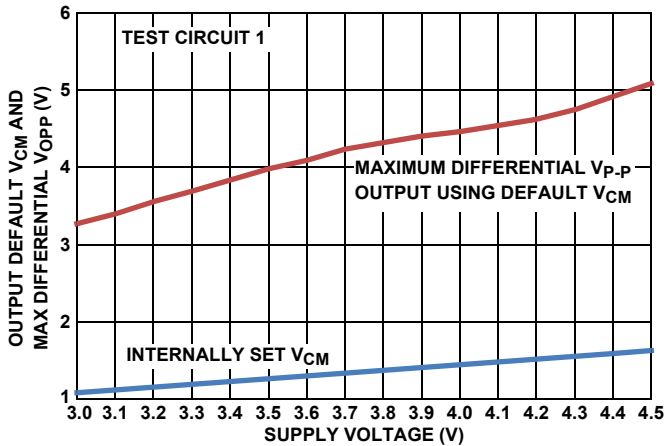
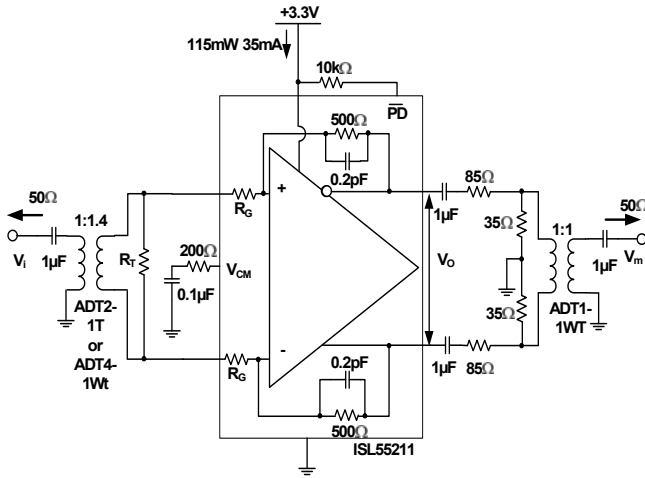
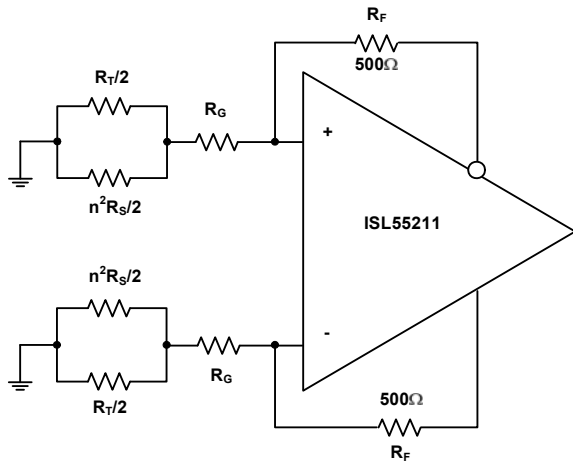
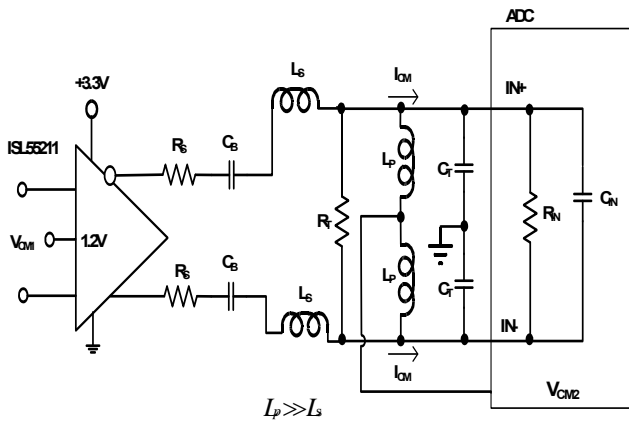

FIGURE 27. DEFAULT V_{CM} AND MAX V_{OPP} vs SUPPLY VOLTAGE
FIGURE 29. TEST CIRCUIT 1
FIGURE 35. NOISE GAIN MODEL FOR THE TRANSFORMER COUPLED INPUT CIRCUIT OF FIGURE 29
FIGURE 37. AC-COUPLED, HIGHER FREQUENCY RLC INTERSTAGE FILTER DESIGN
Test Circuit 1 of Figure 29 forms a starting point for many of the characterization curves for the ISL55211. Since most lab sources and measurement devices are single-ended, this circuit converts to differential at the input through a wideband transformer and would also be a typical application circuit coming from a single-ended source. Assuming the source is a 50 Ω impedance, the internal R_G resistors and external R_T are set to provide both the input termination and the gain. Since the inverting summing nodes act as virtual ground points for AC signal analysis, the total termination impedance across the input transformer secondary will be $(2 * R_G) || R_T$. Setting this equal to $n^2 * R_S$ will give a matched input impedance inside the bandwidth of the transformer (where "n" is the turns ratio). The amplifier gain is fixed by the selected input R_G element and the internal 500 Ω feedback resistors. While the ISL55211 is internally a Voltage Feedback Design (VFA) to give the lowest possible noise, internal compensation caps hold the bandwidth over gain setting approximately constant at 1.4GHz. For wider small signal bandwidth at lower gains, consider the ISL55210, which provides >2.2GHz at a gain of 12dB.
Working with a transformer coupled input as shown in Figure 29, or with two DC blocking caps from a differential source, means the output common mode voltage set by either the default internal V_{CM} setting, or a voltage applied to the V_{CM} control pin, will also appear as the input common mode voltage. This provides a very easy way to control the ISL55211 I/O common mode operating voltages for an AC-coupled signal path. The internal common mode loop holds the output pins to V_{CM} and, since there is no DC path for an I_{CM} current back towards the input in Figure 29, that V_{CM} setting will also appear as the input common mode voltage. It is useful, for this reason, to leave any input transformer secondary centertap unconnected. The internally set V_{CM} voltage is referenced from the negative supply pin. With a single 3.3V supply, it is very close to 1.2V but will change with total supply voltage across the device as shown in Figure 27.
Most of the characterization curves starting with Figure 29 then get different gains by changing the connections to the two pairs of input R_G connections, as shown on the pin configuration drawing on page 2. Two input turns ratios are intended for Test Circuit 1; either a 1:1.4 turns ratio (ohms ratio of 2) or a 1:2 turns ratio (ohm ratio of 4). The specific transformers shown in Figure 29 are representative of broadband RF transformers but alternate devices and manufacturers of these turns ratio devices are certainly applicable. The output side of this test circuit presents a differential 200Ω load while converting the differential to single-ended through a resistive attenuator and a 1:1 transformer. This inserts approximately a 17dB insertion loss that is removed to report the characteristic curves. For load tests below the 200Ω shown in Figure 29, a simple added shunt resistor is placed across the output pins. For loads > 200Ω, the series and shunt load R's are adjusted to show that total load (including the 50Ω measurement load reflected through the 1:1 output measurement port transformer) and provide an apparent 50Ω differential source to that transformer. This output side transformer is for measurement purposes only and is not necessary for final applications circuits. There are output interface designs that do benefit from a transformer as part of the signal path as shown in Figure 1. In that case, the 1:1.4 output side transformer becomes part of a filter design and recovers the filter insertion loss from the amplifier output pins to the ADC inputs.
The characterization circuit of Figure 29 shows one possible input stage interface that offers several advantages. Where AC coupling is adequate, the circuit of Figure 29 simplifies the input common mode voltage control. If the source coming into this stage is single-ended, the input transformer provides a zero power conversion to differential. The two gain resistors (R_G in Figure 29) provide both a portion of the input termination impedance and the gain element for the amplifier. For 50Ω systems, these R_G resistors are too high with the turns ratios shown in Figure 29 to provide the full match and an external R_T resistor is required. This R_T element goes away at the highest gain setting using a 1:2 input turns ratio transformer.
This input interface also simplifies the input common mode control. The V_{CM} pin controls the output common mode voltage. In most DC-coupled FDA applications, the input common mode voltage is determined by both this output common mode and the source signal. In a configuration like Figure 29, there is no path for a common mode current to flow from output to input, so the input common mode voltage equals the output. A similar effect could be achieved with just two blocking caps on the two R_G resistors. A DC-coupled, single to differential, configuration will also have a common mode input that is moving with the input signal. Converting to just a differential signal at the amplifier, as in Figure 29, removes any input signal related artifacts from the input common mode making the ISL55211 behave as a differential only VFA amplifier. There is only a very small differential error signal at the inputs set by the loop gain, as in a
of 1.3V for instance, then $1.3V + 0.9V + 1.5V = 3.7V$ will give an unclipped 3.6V_{P,P} output capability. The $V_{P,P}$ reported in Figure 27 is an asymmetrically clipped maximum swing. Going 10% above this 3.7V target to 4.1V will be within the recommended operating range and give some tolerancing headroom that would also suggest the V_{CM} voltage be moved up to approximately 1.5V, which coincides with the default output V_{CM} from Figure 27. Operating at +4.1V single supply in a Figure 29 type configuration will give the maximum linear differential output swing of 3.6V_{P,P}.
The differential inputs internal to the ISL55211 also have operating range limits relative to the supply voltages. Operating in an AC-coupled circuit like Figure 29 will produce an input common mode voltage equal to the outputs. The inputs can operate with full linearity with this V_{CM} voltage down to 1.1V above the $-V_S$ supply. On the default 1.2V output V_{CM} on +3.3V supplies this gives a 100mV guardband on the input V_{CM} voltages. Overriding the default V_{CM} by applying a control voltage to the V_{CM} pin should be done with care in going towards the negative supply due to this limit. On the + side, the maximum input V_{CM} above the $-V_S$ supply is 2V so there is more room to move the output V_{CM} up than down from the default value.
+85°C maximum operating ambient from Figure 27, we get $4.5V \times 45mA + 120^\circ C/W = +24^\circ C$ rise above +85°C or approximately +109°C operating T_j maximum - still well below the specified Absolute Maximum operating junction temperature of +135°C.
Adding an input transformer can improve the input referred noise by adding a noiseless voltage gain. Starting from Test Circuit 1 of Figure 29, and assuming the source shows a matched broadband source R_S that will be matched by the input referred parallel combination of $2 * R_G || R_T$, a noise gain analysis circuit can be developed as shown in Figure 35.
Stepping through the 3 gain settings with two input transformers will allow the noise gain to be calculated for the circuit of Figure 35, which is all that is needed in Equation 1 to arrive at an output differential noise (since R_F is fixed at 500Ω). Doing this gives Table 4.
2. AC-coupled, higher frequency range interstage filter design. This design replaces the R_T resistors in Figure 35 with large valued inductors and implements the filter just using shunt resistors at the end of the RLC filter. In this case, the ADC V_{CM} can be tied to the centerpoint of the bias path inductors (very much like a Bias-T) to provide the common mode voltage and current to the ADC inputs. These bias inductors do limit the low frequency end of the operation where, with $1\mu\text{H}$ values, operation from 10MHz to 200MHz is supported using the approach of Figure 37.